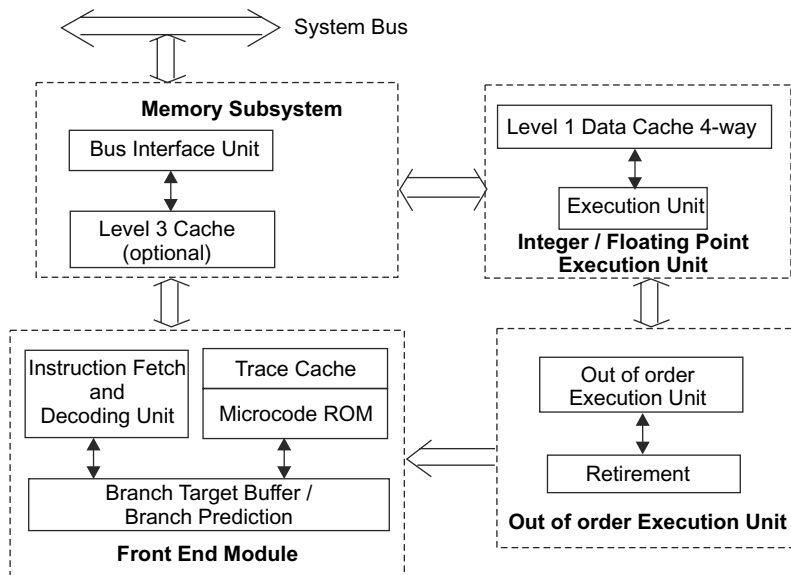
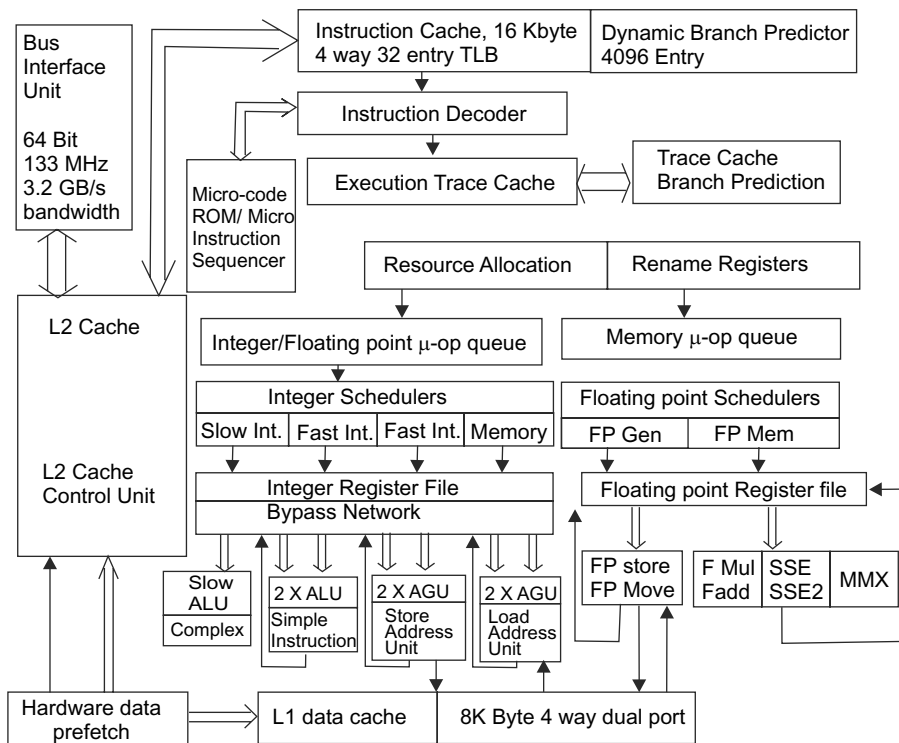

Fig. 12.60 Simplified block diagram of Pentium 4 processor
Fig. 12.61 Detail internal architecture of Pentium 4 processor
The simplified block diagram of internal architecture of the Pentium 4 processor is shown in Fig. 12.60 and the detailed internal architecture of Pentium 4 is depicted in Fig. 12.61. Generally, the Pentium 4 architecture consists of a Bus Interface Unit (BIU), Instruction Fetch and Decoder Unit, Trace Cache (TC), Microcode ROM, Branch Target Buffer (BTB), Branch Prediction, Instruction Translation Look-aside Buffer (ITLB), Execution Unit, and Rapid Execution Module. It is clear from Fig. 12.60 that The Pentium 4 architecture has four different modules such as (i) memory subsystem module, (ii) front-end module, (iii) integer/floating point execution unit, and (iv) out-of-order execution unit. The memory subsystem module contains a Bus Interface Unit (BIU) and L3 cache (optional). The front-end module consists of instruction decoder, Trace Cache (TC), microcode ROM, Branch Target Buffer (BTB) and branch prediction. Integer/Floating point execution unit has the L1 data cache and execution unit. The out-of-order execution unit consists of execution unit and retirement. In this section, the detailed internal architecture of Pentium 4 has been discussed elaborately.